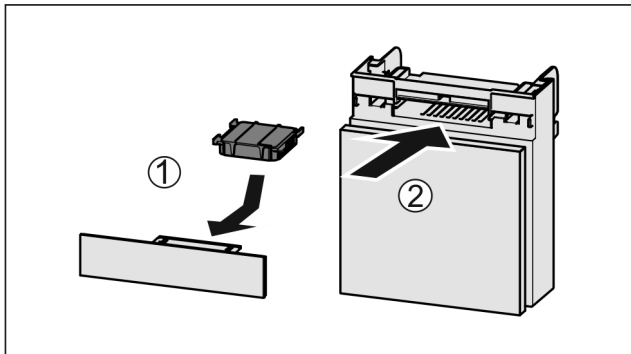

Fig. 137
- ▶ Insert the carbon filter as shown in the diagram Fig. 137 (1).
- ▶ Push the compartment in Fig. 137 (2).